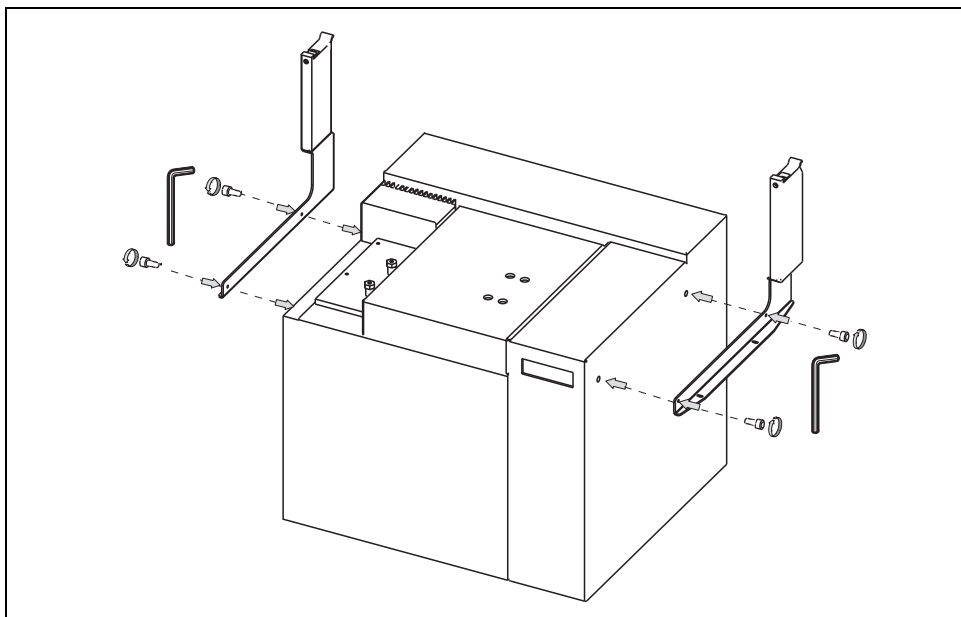

Figure 4-19. Sampler Supports Installation on the First Agilent 6890 GC (1)
2. Mount the left and right sampler supports respectively on the left and right sides of the first GC unit as shown in Figure 4-19.